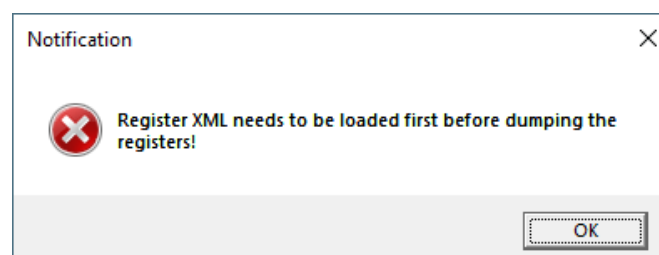

Figure 30. Register definition Loading Notification Dialog Box
**NOTE:** Before performing the "Register dump", the corresponding Register definition needs to be selected (Figure 67) or loaded first (4.1.4.1\_Load register configuration from file). Otherwise following notification is shown (Figure 30).